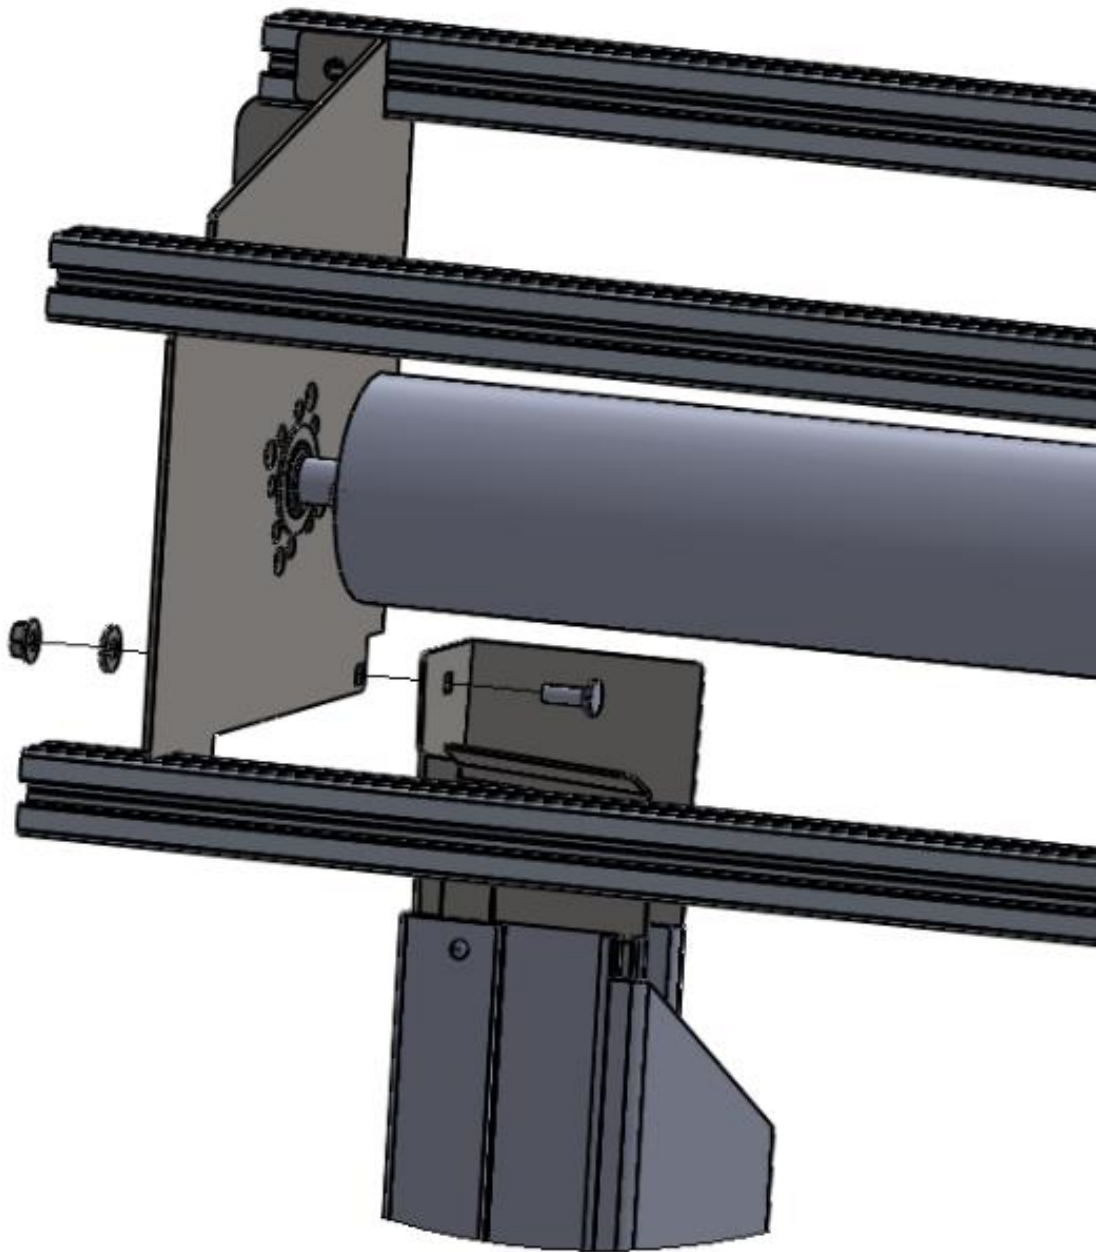

Figure 8 MOUNT TRACK TO HEADER
1. Starting with either the left or right side, loosely “hang” the Track Assembly by its Transition Bracket Mount hardware. Note that the transition Bracket mounts to the inside of the tab of the Header Assembly Mounting Bracket. It is important to insert the carriage bolt from the inside of the transition and the washer and hex nut on the outside of the assembly as shown. (Figure 8 MOUNT TRACK TO HEADER)